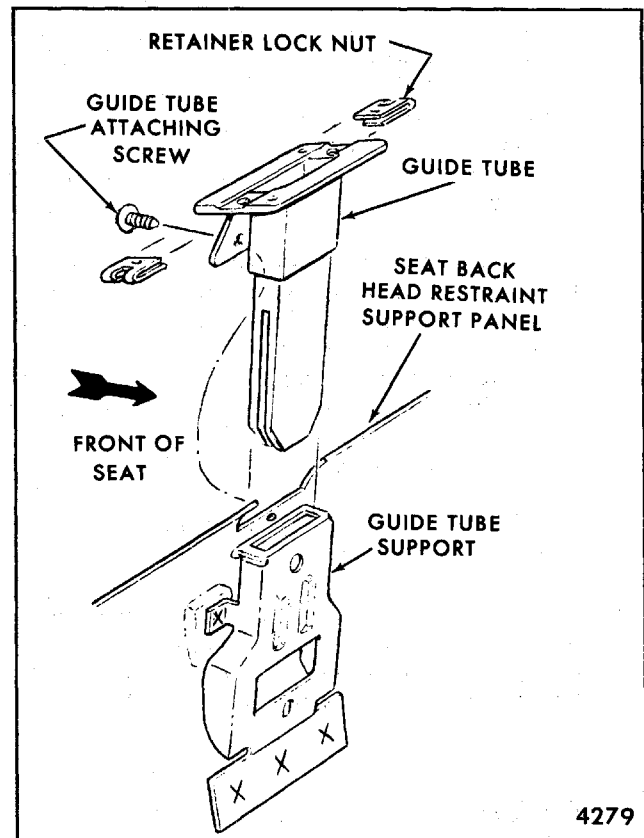

Fig. 9-55-Head Restraint Guide Tube - "A, X and E" Styles
2. On "A, E and X" style seat backs with one piece (envelope type) seat back trim assembly, remove seat back assembly as previously described; then as a bench operation remove hog rings securing trim at bottom of seat back and pull up trim sufficiently to gain access to head restraint support or guide tube. On seat backs with seat back panel or detachable rear trim facing, remove seat back panel and detach back trim sufficiently to gain access to head restraint support or guide tube. Remove screw securing guide tube and slide guide tube out of support (Fig. 9-55).